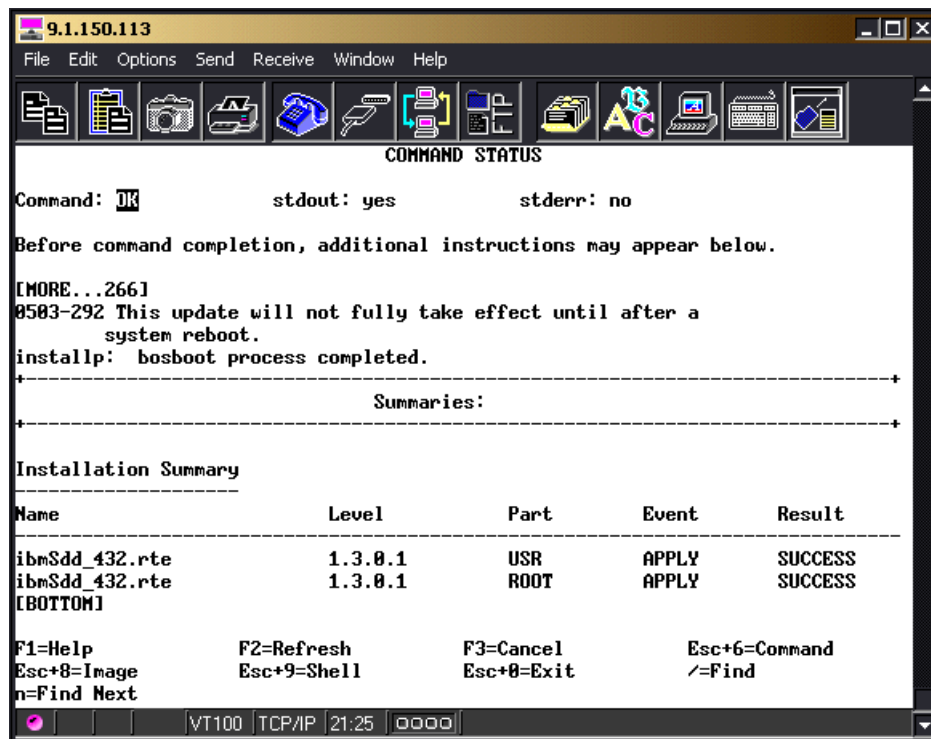

Figure 5-6 SDD installation on AIX - installp command status
7. The ARE YOU SURE pop-up window displays. Press **Enter** to continue with the installation. The installation process can take several minutes to complete. Successfully completed installp process should finish with SMIT screen similar to shown on Figure 5-6. When the installation is complete, press F10 (or ESC + 0) to exit from SMIT. Remove the installation media from the device.
8. As shown in Figure 5-6, to complete an installation process a system reboot is required. Please reboot your system.